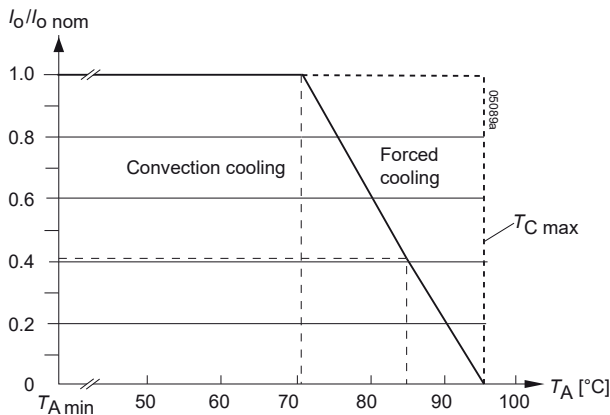

Fig. 7
**Notes:** Sufficient forced cooling or an additional heat sink allows  $T_A$  to be higher than 71 °C (e.g., 85 °C), as long as  $T_{C \max}$  is not exceeded. Details are specified in fig.7.